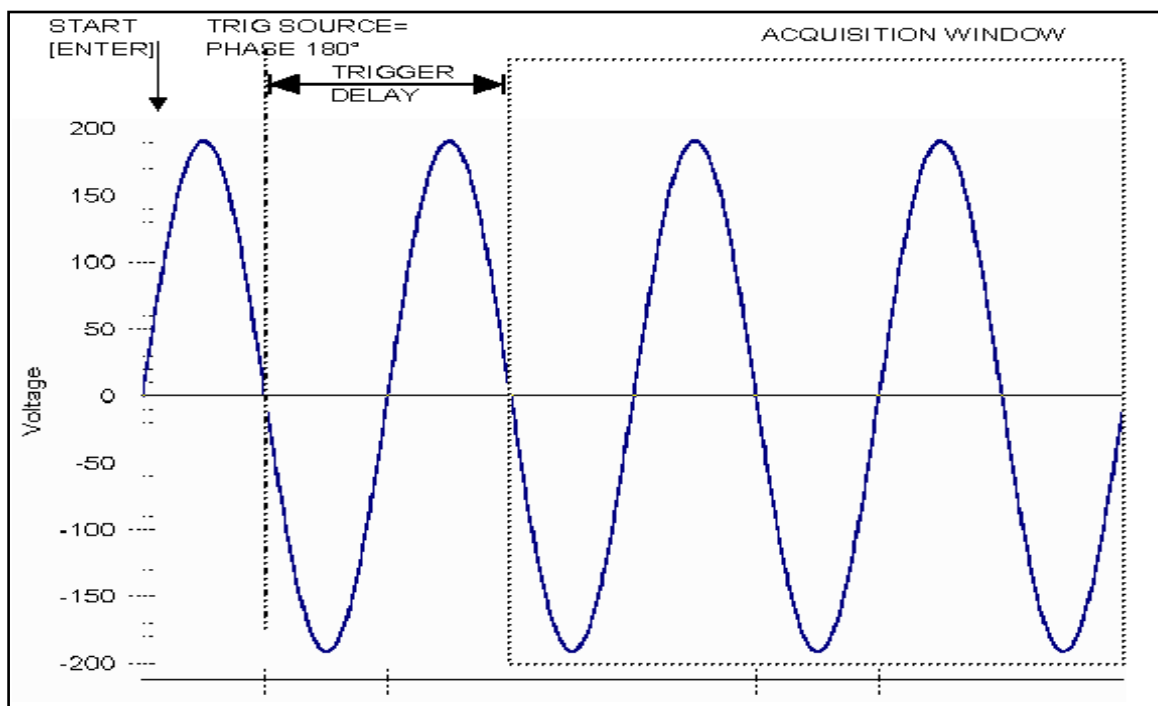

Figure 4-37: Positive trigger delay (Post trigger data)
**Phase (PHASE A)** This mode causes the CSW acquisition system to wait for a specified phase angle on the phase A voltage output. This allows the acquisition to be positioned in time with respect to any phase angle on phase A, B or C. Note that phase A, B and C are typically at 0°, 240° and 120° with respect to the specified trigger phase in this field. An example of this trigger source mode is shown in Figure 4-37.
A positive trigger delay value means the acquisition window is delayed by the amount of time specified. In this case, the actual trigger moment itself is no longer present in the acquisition buffer. This situation is shown in Figure 4-37 where a 20 ms trigger delay is used after triggering on phase A = 180°. The fundamental frequency of the output is 50 Hz. The trigger point is indicated by the dashed line. It occurs on the first 180 degree point that occurs after the user presses the ENTER key while on the START field. Once the trigger occurs, the acquisition holds off the specified 20 ms at which point the data requested is captured. Using a positive trigger delay value always yields post trigger data.